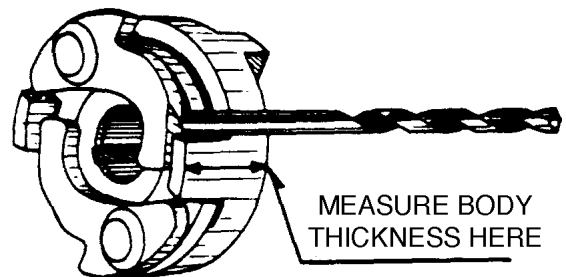

Figure 8-16. Impulse Coupling Inspection
9. Inspect pulse coupling flyweight on the -21 and -204 magnetos for excessive looseness on the axles. Design couplings having 0.927 inch thick body should be checked with 1/8 inch drill. Couplings with 0.974 inch thick body are checked with a No. 18 drill. If drill fits between cam and flyweight, replace coupling. (Refer to Figure 8-16.)